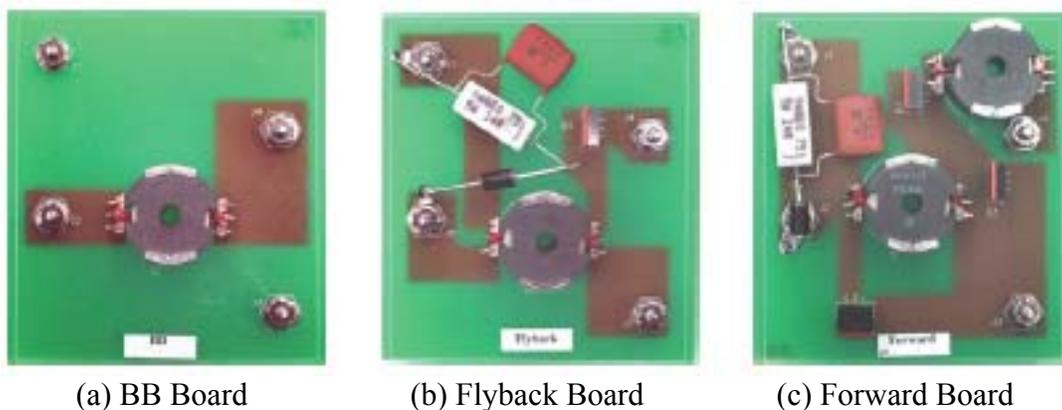

Figure 1.3: Magnetics boards.
1. BB Board (Fig. 1.3(a)): For buck, boost and buck-boost converters
2. Flyback Board (Fig. 1.3(b)): For flyback converter
3. Forward Board (Fig. 1.3(c)): For forward converter